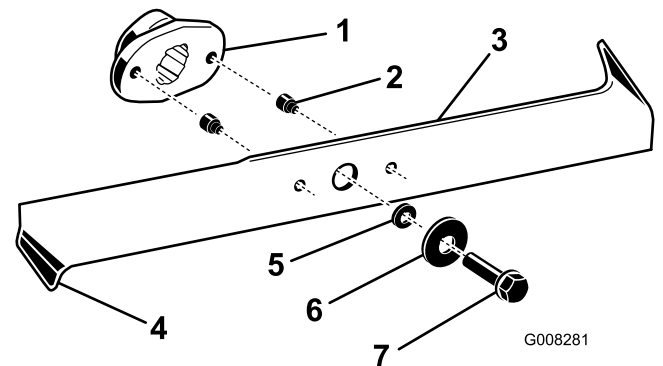

Figure 40
2. Inspect the cutting edges (Figure 40). If the edges are not sharp or have nicks, remove the blades and sharpen them; refer to Sharpening the Blades \(page 33\).
3. Inspect the blades, especially the bent edges (Figure 40). If you notice any wear or damage in this area, immediately install new blades.
4. If the shear pins are broken, replace them immediately (Figure 40).
3. Remove the bolts, washers, and blades (Figure 40). Wedge a block of wood between each blade and the mower to lock the blade when you are removing each bolt.
1. Install the blades, washers, and blade bolts (Figure 40).